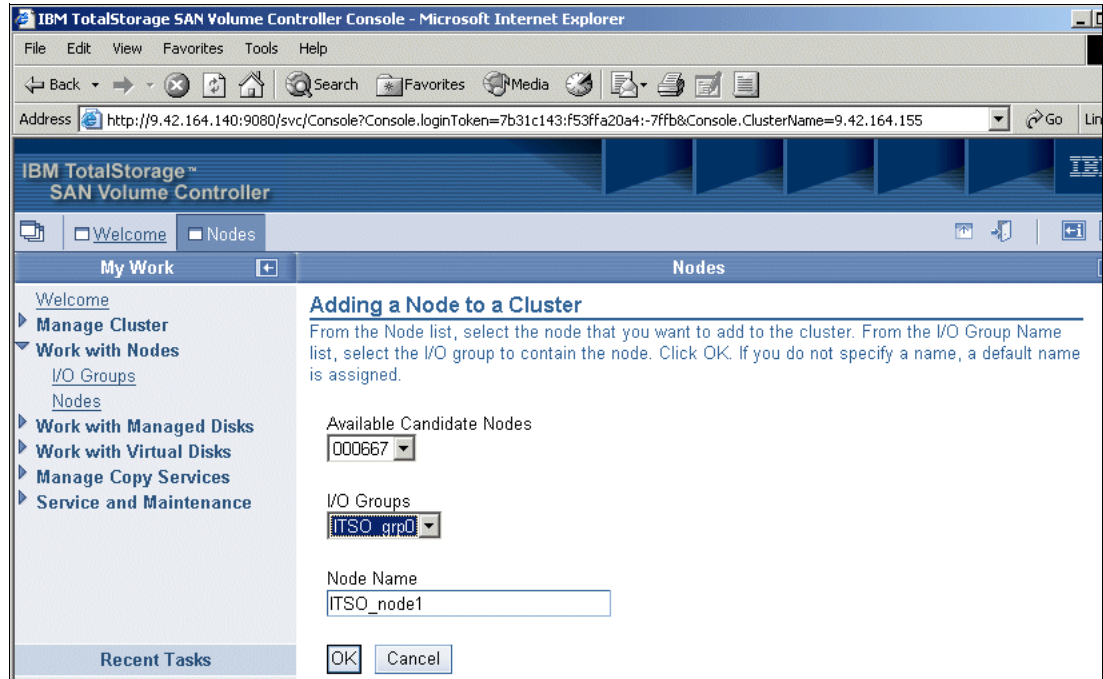

Figure 9-22 Adding a node
2. On the Adding a Node to a Cluster panel (Figure 9-22), select a node from the list of available nodes. Select the I/O group to which you want to assign the new node. Enter a suitable name for the new node. Click **OK**.